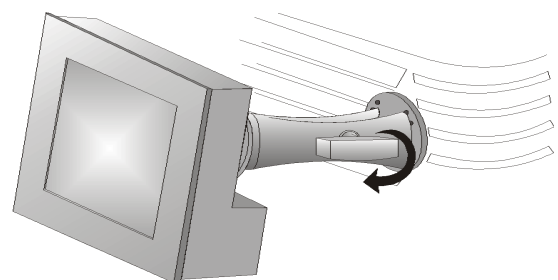

Figure 2-8
2. Tighten the mounting arm until it fits snug on the ball joint. Figure 2-8.